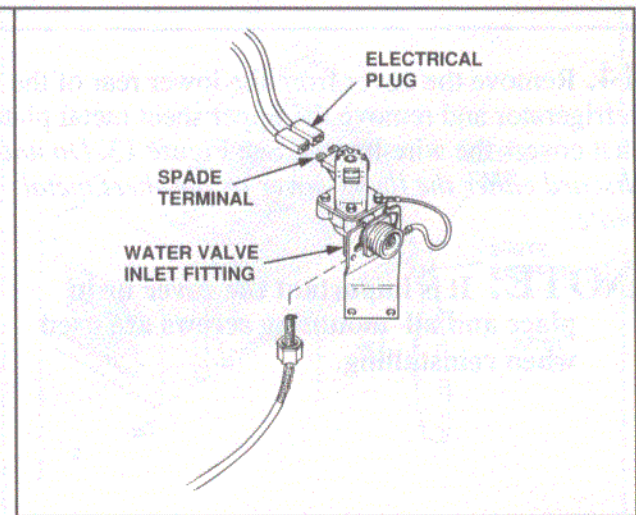

Figure 16
18. Connect the plastic tube to the outlet fitting on the underside of the water valve, making sure that the plastic tube is firmly seated in the water valve outlet fitting. See Figure 16. Start the plastic hex nut with your fingers, and then finish tightening using the adjustable wrench. *Do not overtighten this nut.*
19. Remove the electrical wires and plug from the clamp on the lower rail of the refrigerator. Connect this plug to the two spade terminals on the water valve coil. See Figure 16. Note that the individual plugs can connect to either spade terminal; the plug, or valve coil, is not polarized.